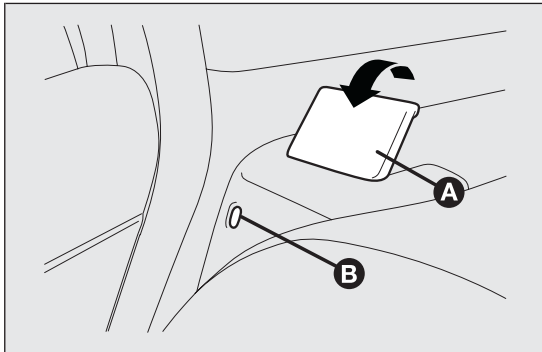

fig. 91
- lift lever A fig. 91 retaining the backrest and fold the latter forwards. When you lift the lever, you will see a red band B.